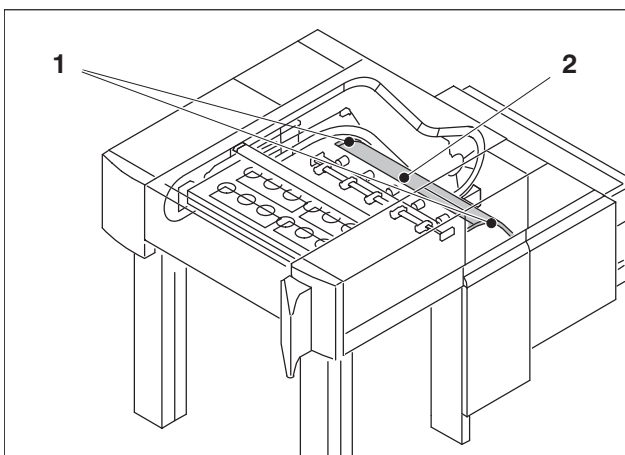
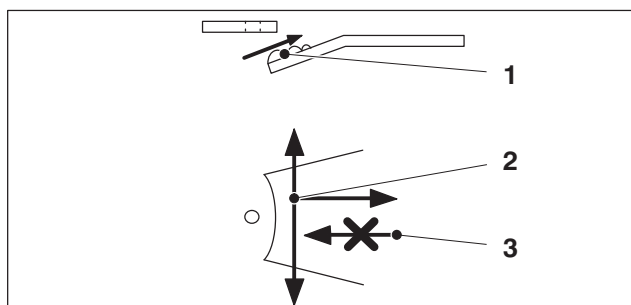

Fig. 52 Sheet guide plates and powder deflector
Fig. 53 Cleaning diagram of the air-blast nozzle
Clean the sheet guide plates and powder deflectors so that you wipe the powder dust in the direction of the blast air (Fig. 53/2). Never wipe the powder dust into the air-blast nozzles (Fig. 53/3).
- 2. Clean the sheet guide plates (Fig. 52/2) and the powder deflectors on D.S. and on O.S. (Fig. 52/1). To do this, use a cloth moistened with washing fluid. Please observe the cleaning diagram at the air-blast nozzle (Fig. 53).